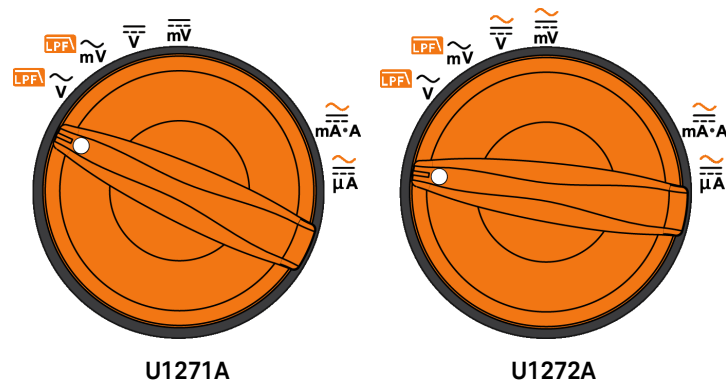

Figure 2-36 Functions allowing frequency measurement
Your multimeter allows simultaneous monitoring of real- time voltage or current with frequency, duty cycle, or pulse width measurements. Figure 2-36 highlights the primary functions allowing frequency measurements in your multimeter.
- 1 To measure frequency, rotate the switch to one of the primary functions allowing frequency measurements highlighted in Figure 2-36.
- 1 To measure pulse width, position the rotary switch to one of the functions allowing frequency measurements shown in Figure 2-36.
- 1 To measure duty cycle, position the rotary switch on one of the functions allowing frequency measurements shown in Figure 2-36.